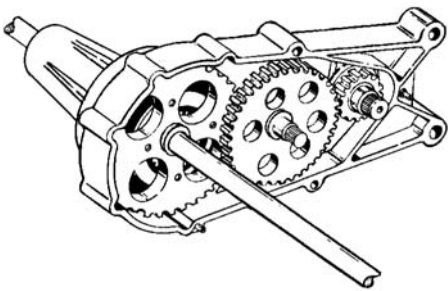

Figure 6-34. Clean Parts
10. After transaxle housing halves have been separated, clean all grease from parts. See Figure 6-34.